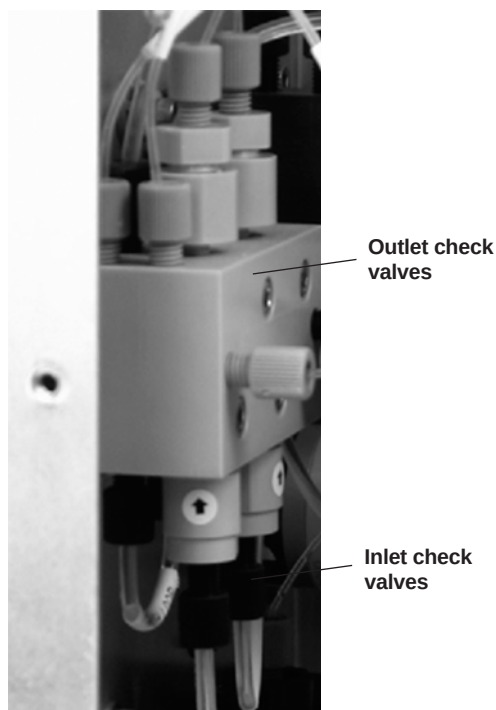

Fig. 13.3. Location of the inlet (bottom) and outlet (top) check valves on the pump assembly.
2. Locate the pump assembly; the inlet check valves are located at the bottom of the pump, and the outlet check valves are located at the top (Figure 13.3).